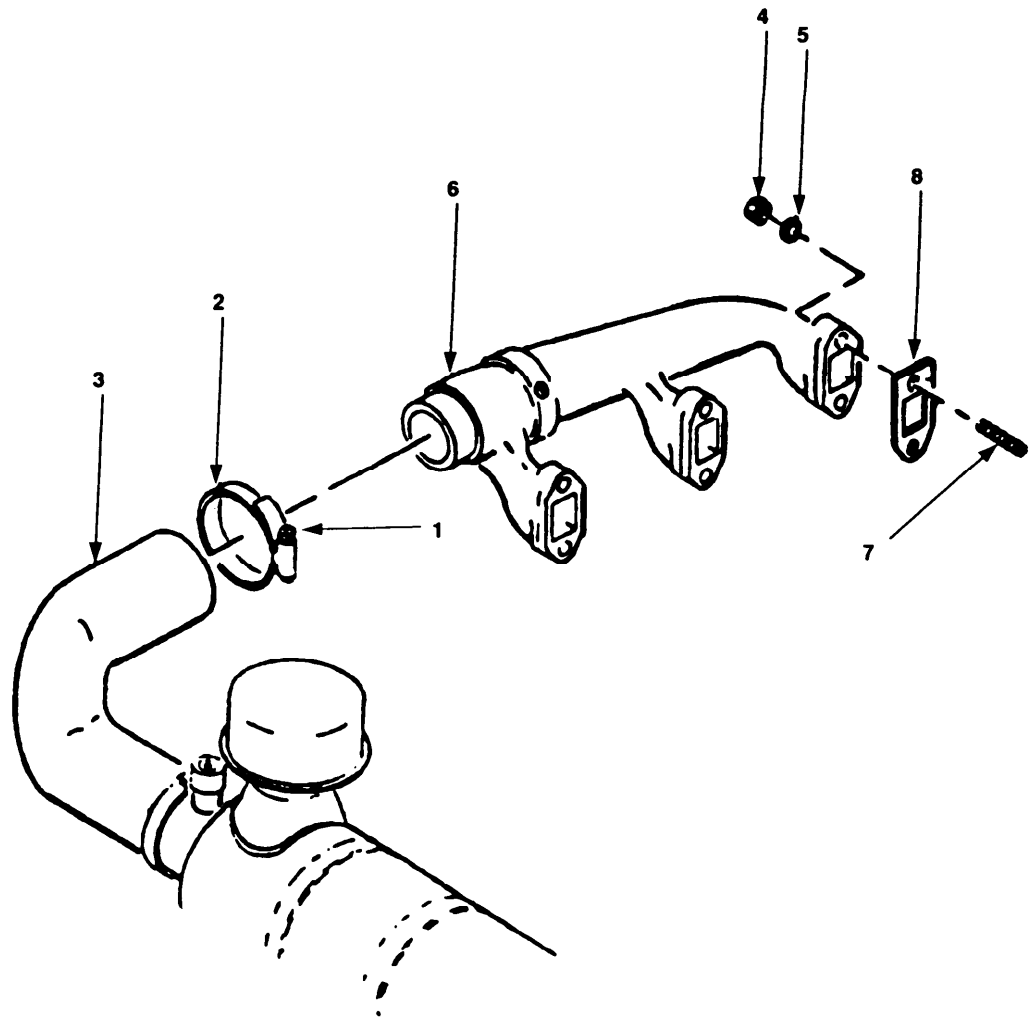

Figure 5-4 Intake Manifold Maintenance.
- a. Loosen screw (figure 5-4, 1) of clamp (2) on airduct hose (3).
- b. Slide clamp (2) over airduct hose (3).
- c. Remove six nuts (4) and washers (5).
- d. Pull intake manifold (6) away from studs (7) and withdraw intake manifold (6) from airduct hose (3).
- e. Remove gaskets (8) and discard.
- a. Install gaskets (8) on studs (7).
- b. Insert intake manifold (6) in airduct hose (3).
- c. Position intake manifold (6) on studs (7) and install washers (5).
- d. Install nuts (4) on studs (7).
- e. Slide clamp (2) until positioned over airduct hose (3) and intake manifold (6), then tighten screw (1).